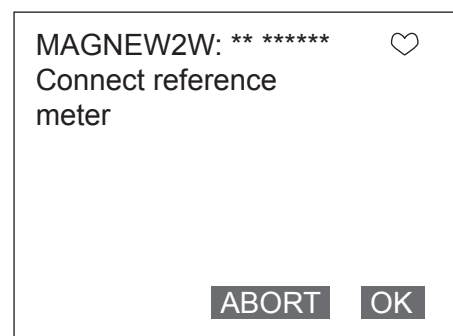

Figure 7-42
3. Figure 7-42 will then appear. Connect the device to measure the current output, and then press F4 (OK).